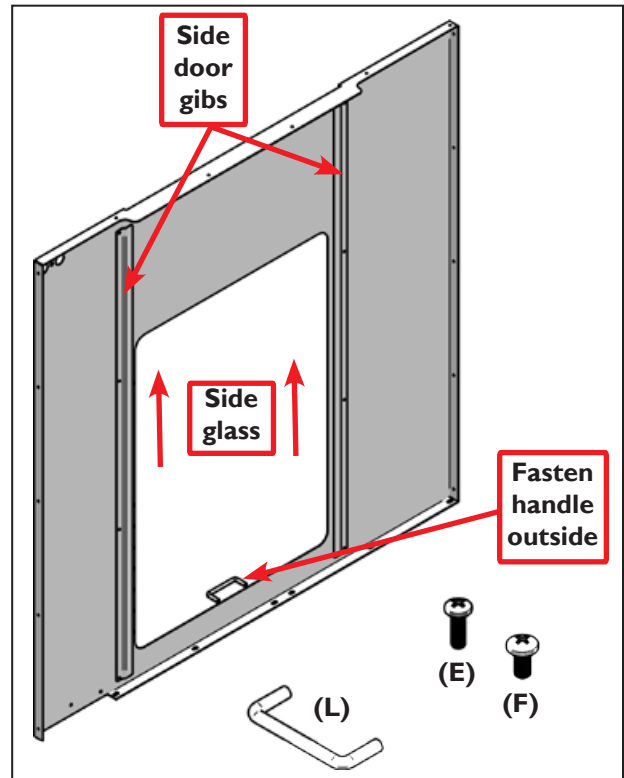

Figure 21
56. Place one Side Door Gib (E.27) on the inside of the Left Side Panel and fasten with screws (F) as seen in **Figure 21**.
57. Place one Side Glass window (E.13;Tormach PN 34434) into the side door gib (see **Figure 21**).
58. Hold the Side Window in place and fasten the other Side Door Gib (E.27) using (F) screws, trapping the side window and allowing vertical movement only (see **Figure 21**).
59. Fasten the Small Handle (L) into place using (E) screws as seen in **Figure 21**.